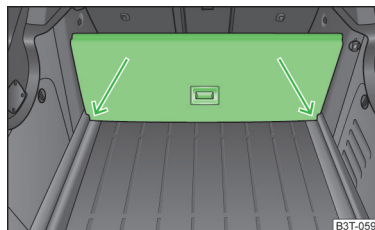

Fig. 110
- Lift up the part with the mounting and secure it by sliding it into the grooves marked with the arrows » Fig. 110.